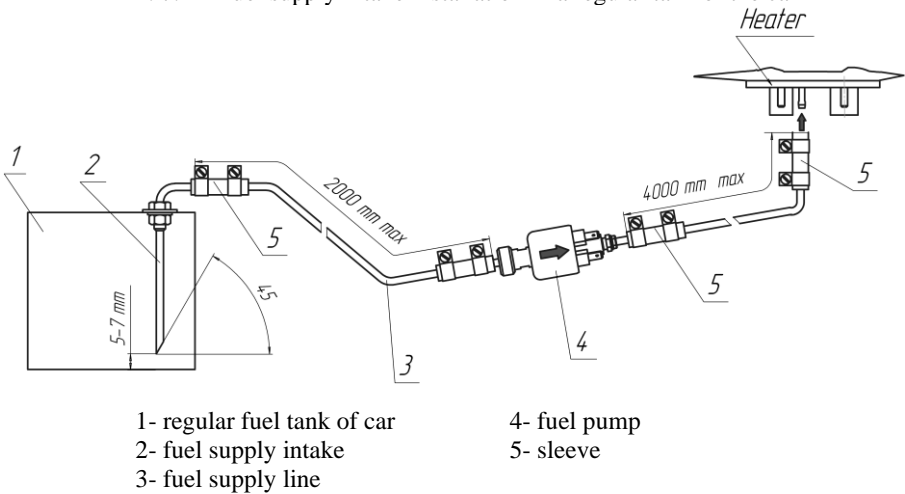

Figure 7.5 – Installation Diagram for Heater Fuel Supply System Using a fuel supply intake
b). Perform installation of the fuel supply line from fuel supply intake to the heater according to fig.7.5.